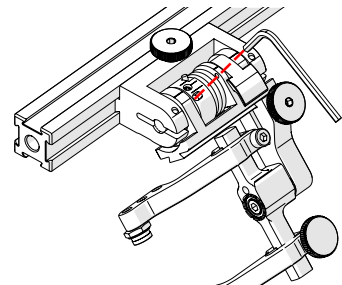

Fig. 158 - Unlatched position
3. Insert the short arm of a 3 mm hex wrench into the 3 mm slot (Fig. 158).